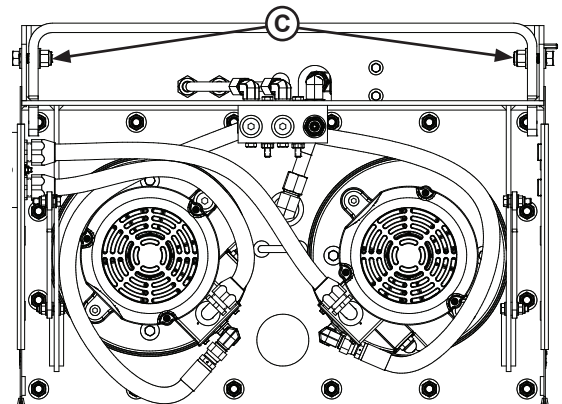

Figure 13 (top view)
6. Secure CentraPower pump station to the wall mount bracket with hardware (C) provided as shown in Figure 13.